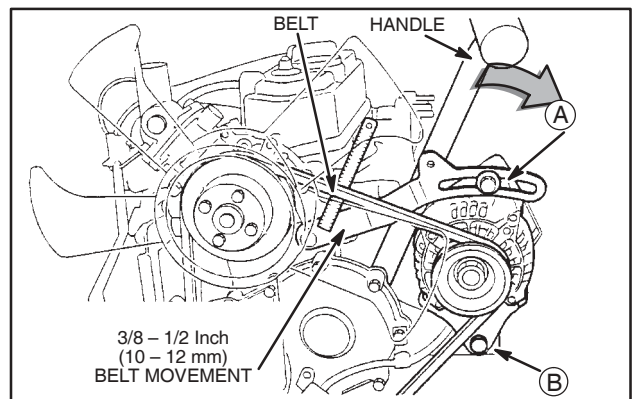

Fig. 41 – Adjusting V-belt
4. Install V-belt, Fig. 41.
5. Install alternator bolts (A) and (B).